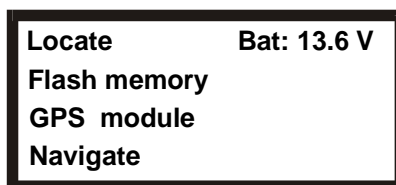

Fig. 2
After switching the device on, it displays Main Menu (Fig. 2).
Main menu	back to main menu (Fig. 2)
1. Switch the device on with a power switch (1, Fig. 1) – display shows main menu (Fig. 2)